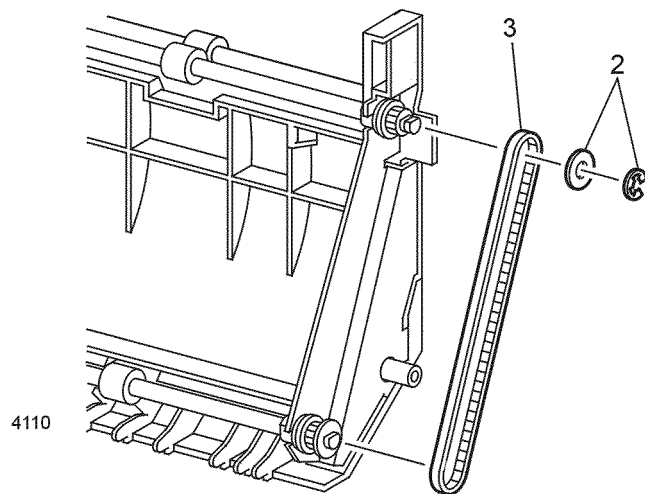

Figure 1 Duplex Drive Belt
2. Remove the E-ring and collar from the right end of the Upper Roll Assembly (Figure 1).
3. Remove the Belt (Figure 1).